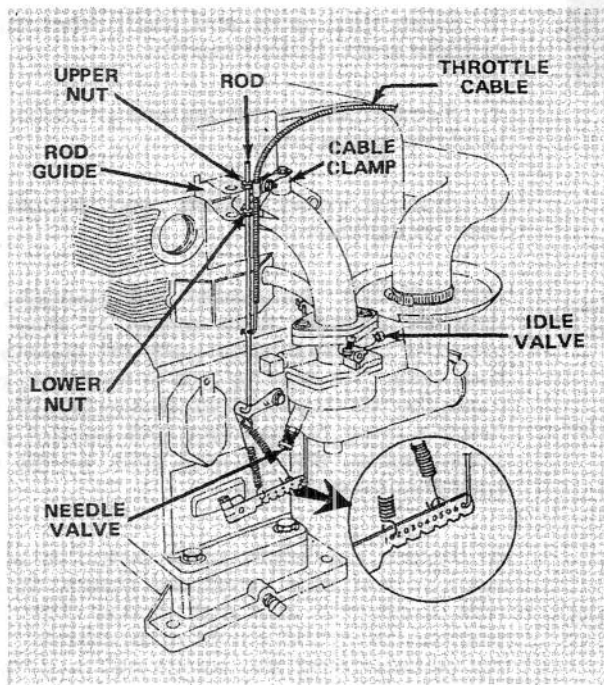

Figure 70
1. Needle Valve (Fig. 70) — Close needle valve by gently rotating it clockwise.
3. Idle Valve (Fig. 70) — Close idle valve by gently rotating it clockwise. Open idle valve by rotating it 3/4 turn counterclockwise.
6. Move throttle control to SLOW and rotate upper nut on rod (Fig. 70) until engine idle is 1800 rpm. Then rotate idle valve in and out until engine idles smoothly.
7. Reset idle speed by adjusting upper nut on rod (Fig. 70) so engine speed is 1800 rpm.
The shortest spring (Fig. 70) keeps the engine governed, even at idle speed. Thus, when moderate loads are applied, the engine will not stop. However, the governor must be adjusted when the engine tends to stall under load.
2. With throttle control in SLOW, adjust upper nut (Fig. 70) until engine idles at 1800 rpm.
2. Loosen machine screw and nut securing throttle cable in the cable clamp (Fig. 70).
3. Pull throttle control rod up until lower nut (Fig. 70) contacts tab. At this time engine speed should be 3300 rpm. If engine speed is correct, proceed to step 5. Proceed to step 4 if speed is not correct.
4. Adjust bottom nut (Fig. 70) to increase or decrease high speed rpm. Rotate bottom nut downward to increase rpm and upward to decrease rpm.